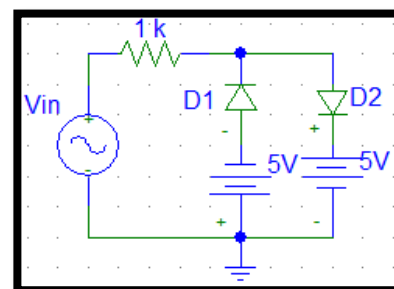

Figure 5: Polarized Limiting Circuit
- How will the output change if DC sources are added like shown in Figure 5?